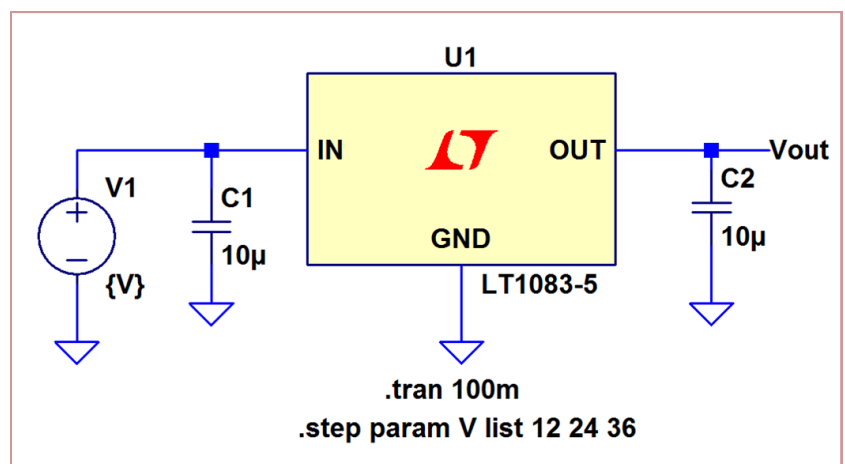

Figure 9. Stepping the input voltage to 12V, 24V and 36V.
- Simulate the schematic shown in Fig. 9. Hold the ALT key while left clicking over the regulator to view the power dissipated for inputs of 12V, 24V and 36V. Be sure to put the value of the voltage source as {V}. **(Schematic, Plot)**